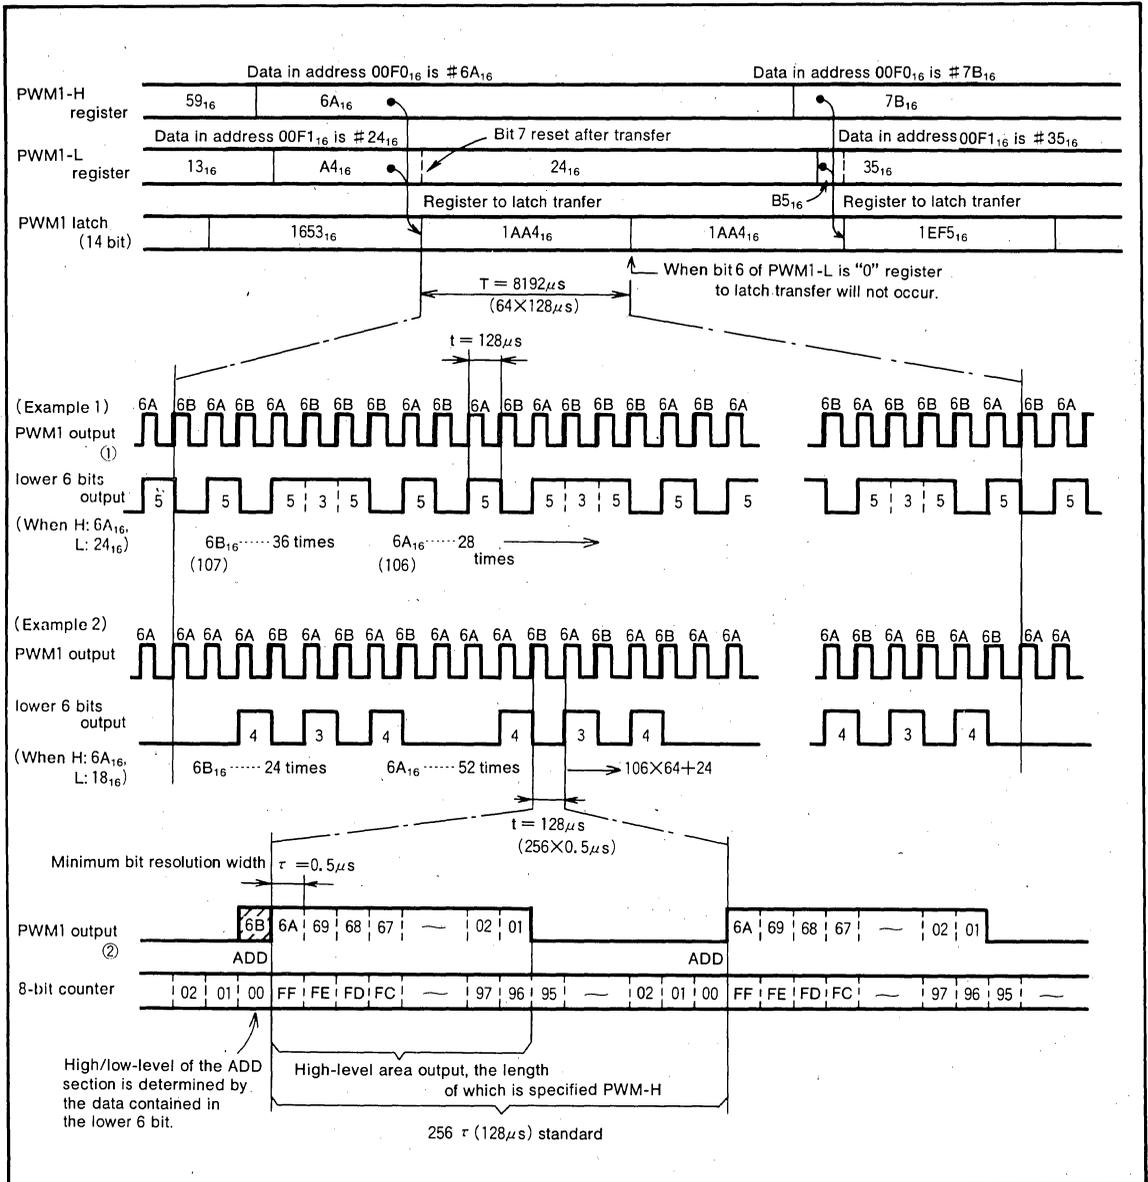

Fig.11 14-bit PWM timing diagram
The timing diagram of the 14-bit PWM is shown in Figure 11. The 14-bit PWM divides the data within the PWM latch into the lower 6 bits and higher 8 bits.
A high-level area within a length N times  $\tau$  is output every short area of  $t=256 \tau = 128\mu\text{s}$  as determined by data N of the higher 8 bits. (Refer to PWM output ② in the lower part of Figure 11.)